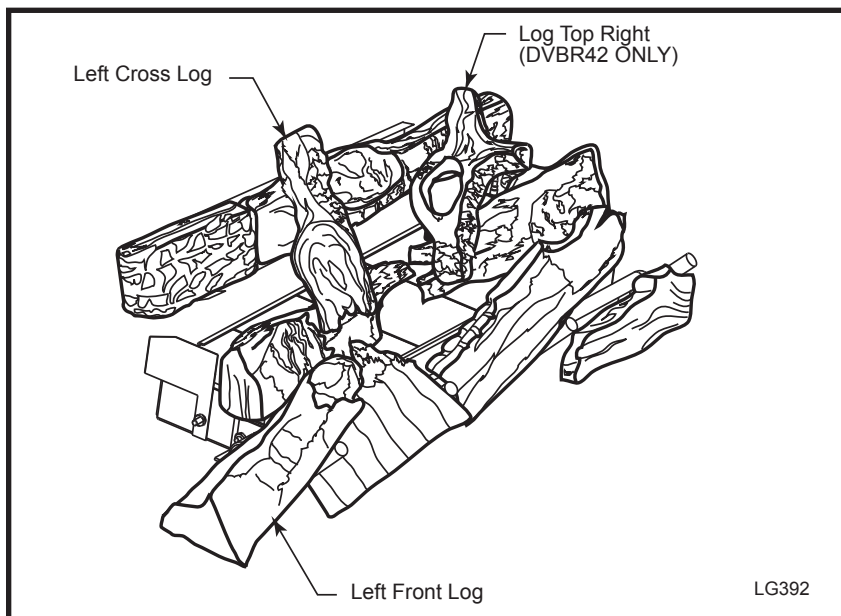

Fig. 53 Place Left Front Log, Left Cross Log and Log Top Right.
8. DVBR42 only. Place the Right Cross Log over the Right Rear Log and the Right Log as shown. (Fig. 53) When positioned correctly, the right rear flame will come up through the hole in the Right Cross log. Carefully adjust the log as needed to allow the flame to come through the hole.